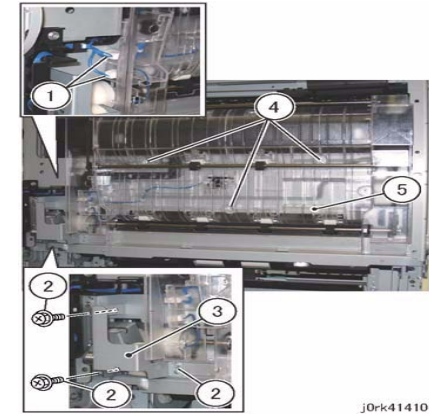

Figure 4 Duplex Assembly
7. Remove the Duplex Assembly. (Figure 4)